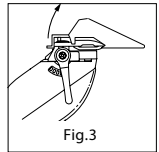

Fig.3
- To remove comb attachments, pull out and up (figure 3).